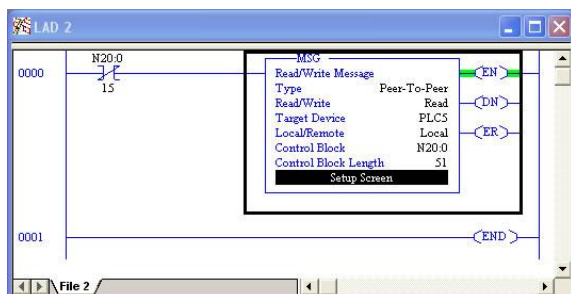

**Figure 44: PLC Program after MSG Instruction Configuration**
- f) Close the dialog box. At this point, the program should appear as shown in Figure 44.